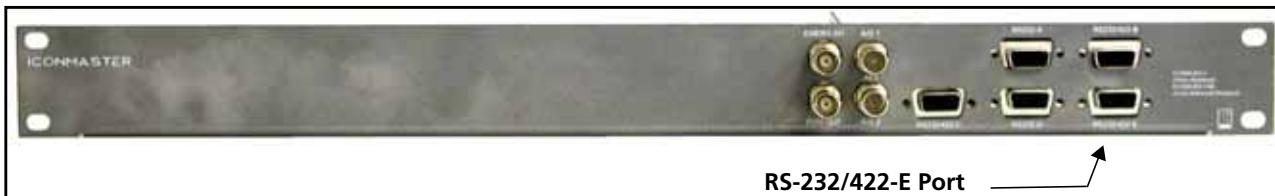

Figure 4-31 RS-232/422-E Port on the ICONM-BO-V Breakout Module
- 7 Connect an available serial port (SERIAL1 or SERIAL2) on the PT-CBP to Serial Port E in the Multi Function I/O connector on the MKE-3901. This can be done by direct connection or by ICONM-BO-V breakout module connection. When using the ICONM-BO-V breakout module, either serial port of the PT-CBP must be connected to the **RS-232/422-A, -B, or -E** port on the breakout module as indicated in Figure 4-31.